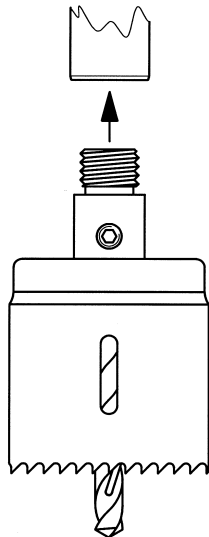

Figure 22
- Set up the arbor hole saws with the pilot drill in the chuckshaft. Screw the hole saw matching the threaded outlet of the branch connection into the arbor hole saw. See *Figure 22*.